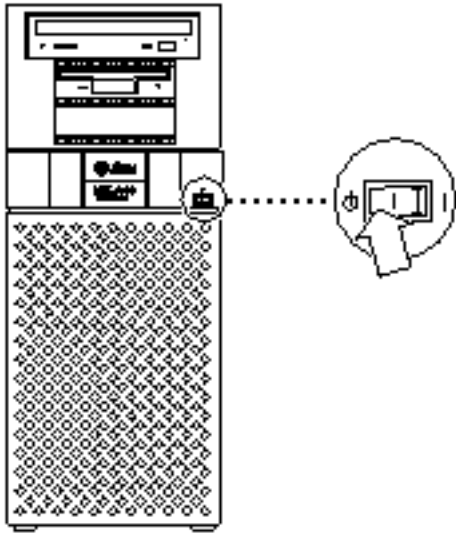

Figure 1-1 System Unit Power-Off (Front Panel)
- c. **Set the front panel power switch to the Off position (Figure 1-1).**